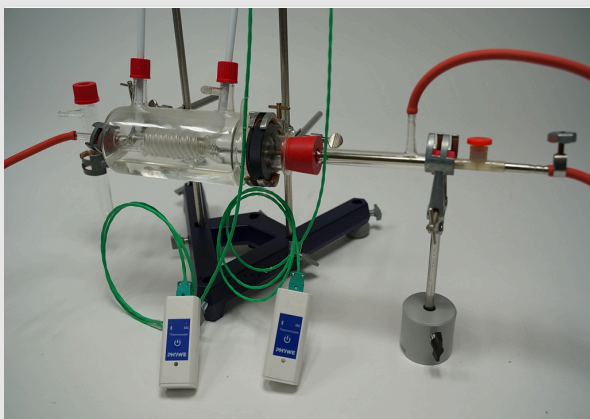

figure 3: Fit in the Glass jacket in the experiment setup
- Fit the glass jacket as shown in figure 3.